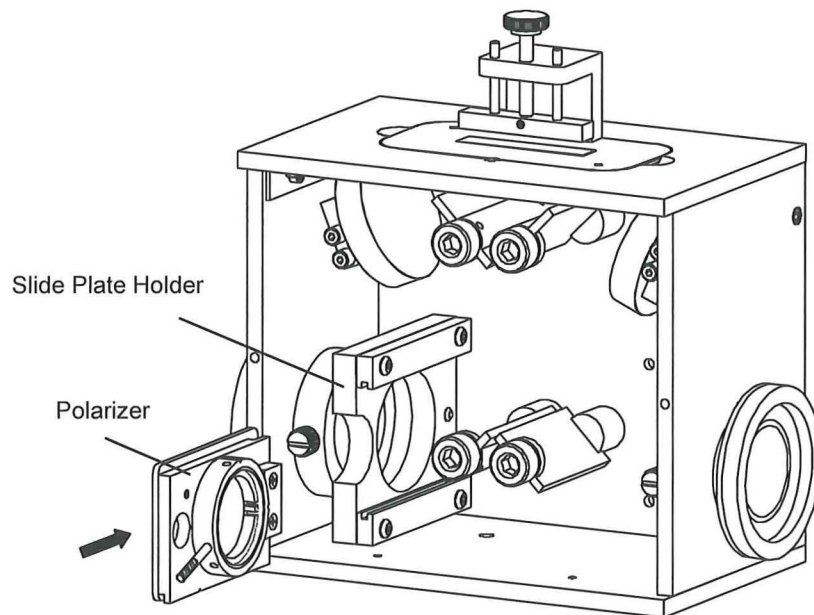

Figure 8 • Polarizer Installation
- Slide the polarizer into the slide plate mount provided inside the Horizon™ (see Figure 8).